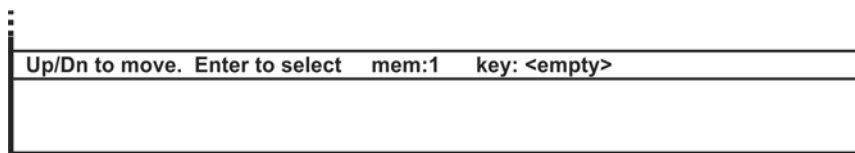

Figure 4. Empty Text Message Location.
- Press Ctrl-Alt-T to enter the text message window. The window opens on top of the data and status windows. Press the up and down arrows to find an available (empty) message location (indicated by an <empty> key assignment), or you can select a message that is no longer needed. Figure 4 shows that memory location 1 is available.